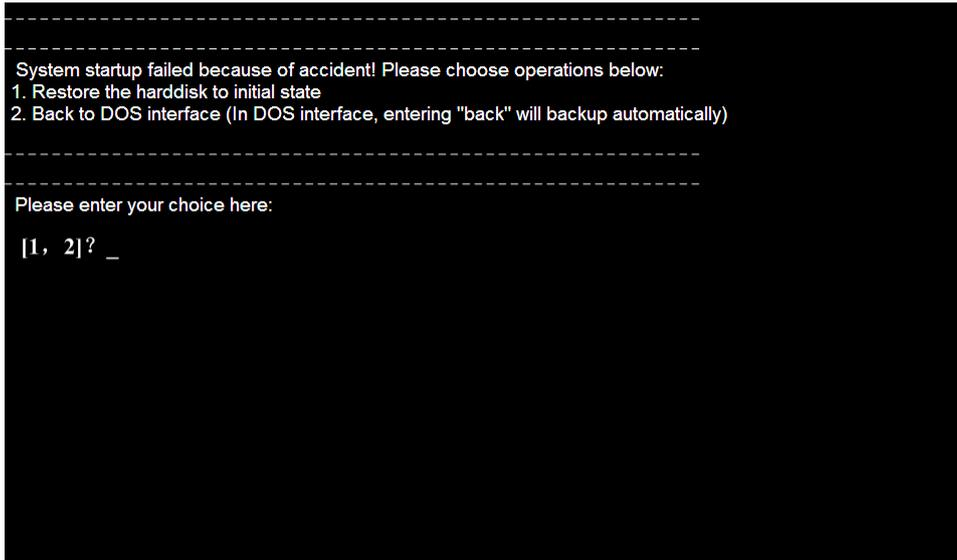

Fig. 4-3 DOS startup interface-1
- 3) After setting start orders, press F4 to save the setting and restart. After normal startup, interface as shown in Fig. 4-3 will appear.